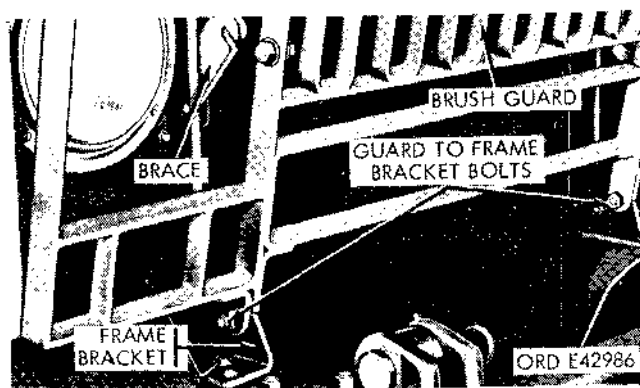

Figure 2-131. Brush guard mountings.
- (1) Drain the cooling system. Refer to TM 9-2320-21-10.
- (2) Loosen the nut and bolt (fig. 2-131) at the left and right frame brackets and at the left and right brush guard braces, and tilt the upper end of the brush guard forward.
- (3) Remove the radiator upper shield (para 2-110).
- (4) Remove the radiator stay rod from the radiator (para 2-110).